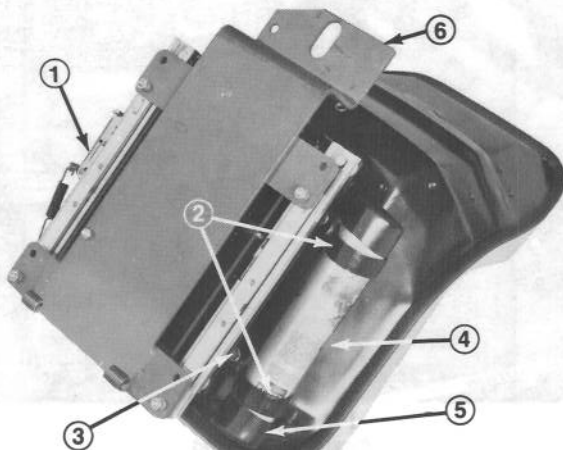

Figure 12
10. Mount seat suspension assembly to (4) capscrews on seat bottom and secure with (4) lockwashers, flatwashers and nuts (Fig. 12).
11. Loosely secure (2) R-clamps to right side of seat bottom with (2) capscrews supplied in kit (Fig. 12). Install manual tube into R-clamps and tighten capscrews (Fig. 12).